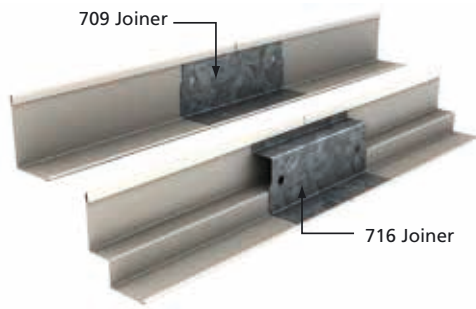

FIGURE 1: WALL ANGLE JOINERS
- 3 Mark the ceiling height on the walls and fix the perimeter trim with suitable fasteners at max. 24" centres, ensuring the fixing is made into the studs. Mitre the corner intersections and use joiners to connect angles as per Figure 1.